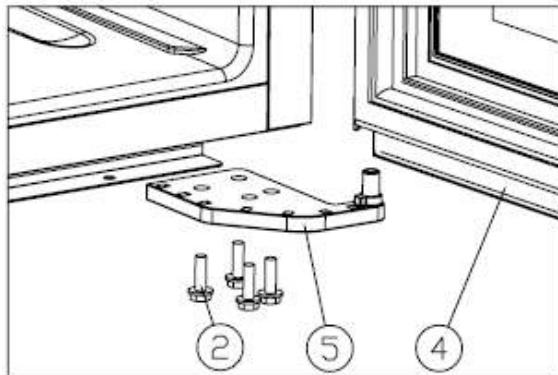

Figure 2
- ❖ Unscrew the M5*16screws②,dismantle the right lower hinge⑤.[Figure 2]